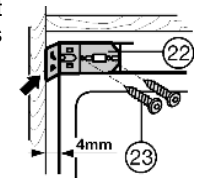

Fig. 11
- ▶ Screw on mounting bracket Fig. 11 (22) with screws Fig. 11 (23).